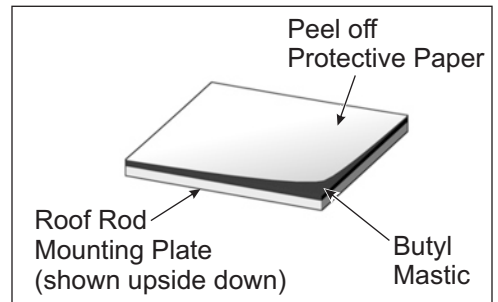

Figure 3: Remove Protective Paper
- C. From the bottom of the Mounting Plate, Peel off the protective paper backing of the butyl mastic. (See Figure 3)